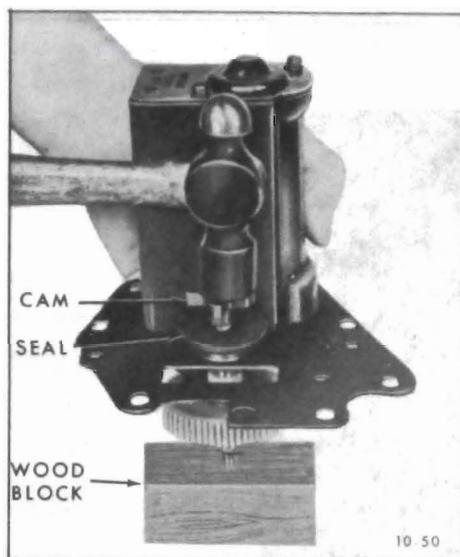

Figure 10-13 - Install Washer Pump Drive Cam
**NOTE: If washer pump operating cam was removed, install output gear and shaft assembly in bearing plate. With threaded end of output shaft supported on a block of wood, tap cam onto shaft until cam bottoms on shaft. See Figure 10-13.**